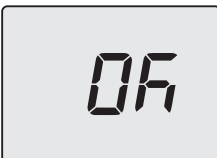

Figure 9.6
- Press button 13 (Figure 9.1) to confirm the value entered. The display will show the following (Figure 9.6) for 5 seconds, then move up to the next level.